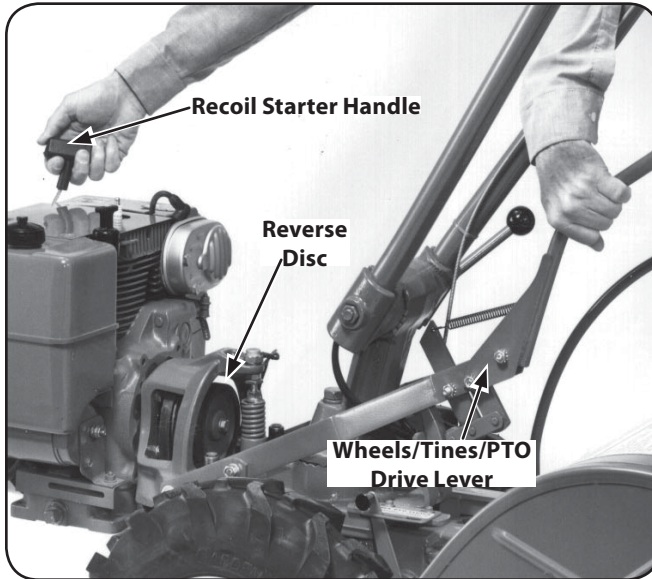

Figure 6-21
3. Use your left hand to hold the Wheels/Tines/PTO Drive Lever up in REVERSE, while briefly pulling out the engine recoil starter. The reverse disc should turn the lower pulley. See Fig. 6-21. If not, or it requires a lot of pressure to hold the lever up in REVERSE, then the reverse adjustment bolt must be adjusted downward. When correctly adjusted, the Wheels/Tines/PTO Drive Lever should pop out of reverse when the lever is released, but not require exceptional effort to hold it up in the reverse position.